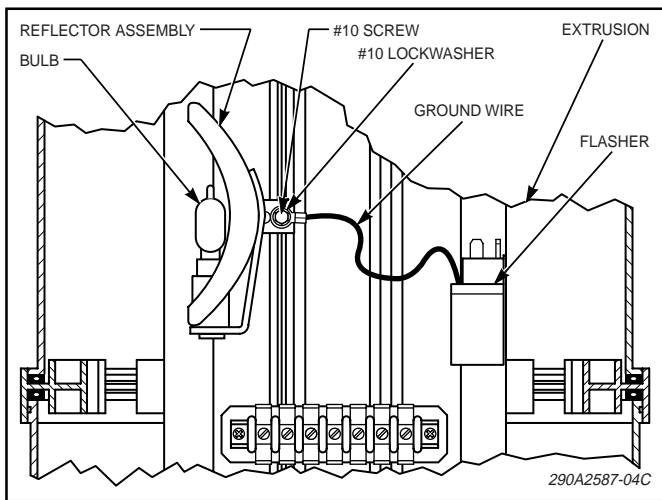

Figure 3.
4. Locate the proper position for mounting the supplied flasher (see figure 3). Remove the backing from one side of the adhesive pad (supplied) and affix the pad to the flasher. Remove the backing from the other side of the adhesive pad. Affix the flasher and pad in the desired position. To ensure a good electrical ground, attach the ground wire from the flasher to the extrusion using the #10 screw and lockwasher used to mount the reflector (see figure 3).